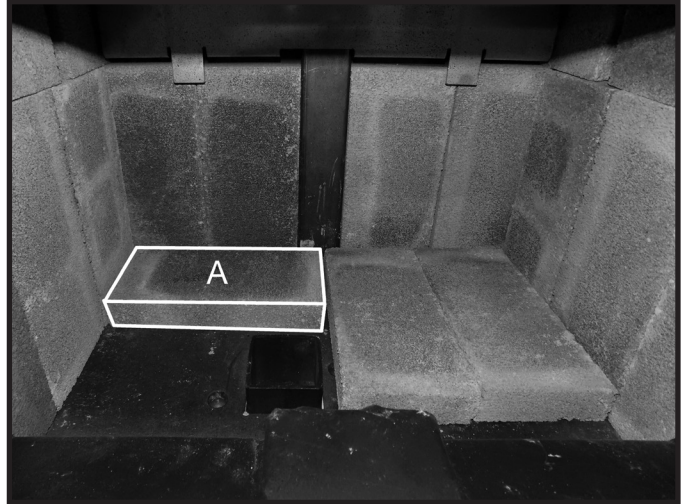

Figure 27: Third floor brick in place.
- Place a third "A" firebrick against the rear wall as shown in (Figure 27).